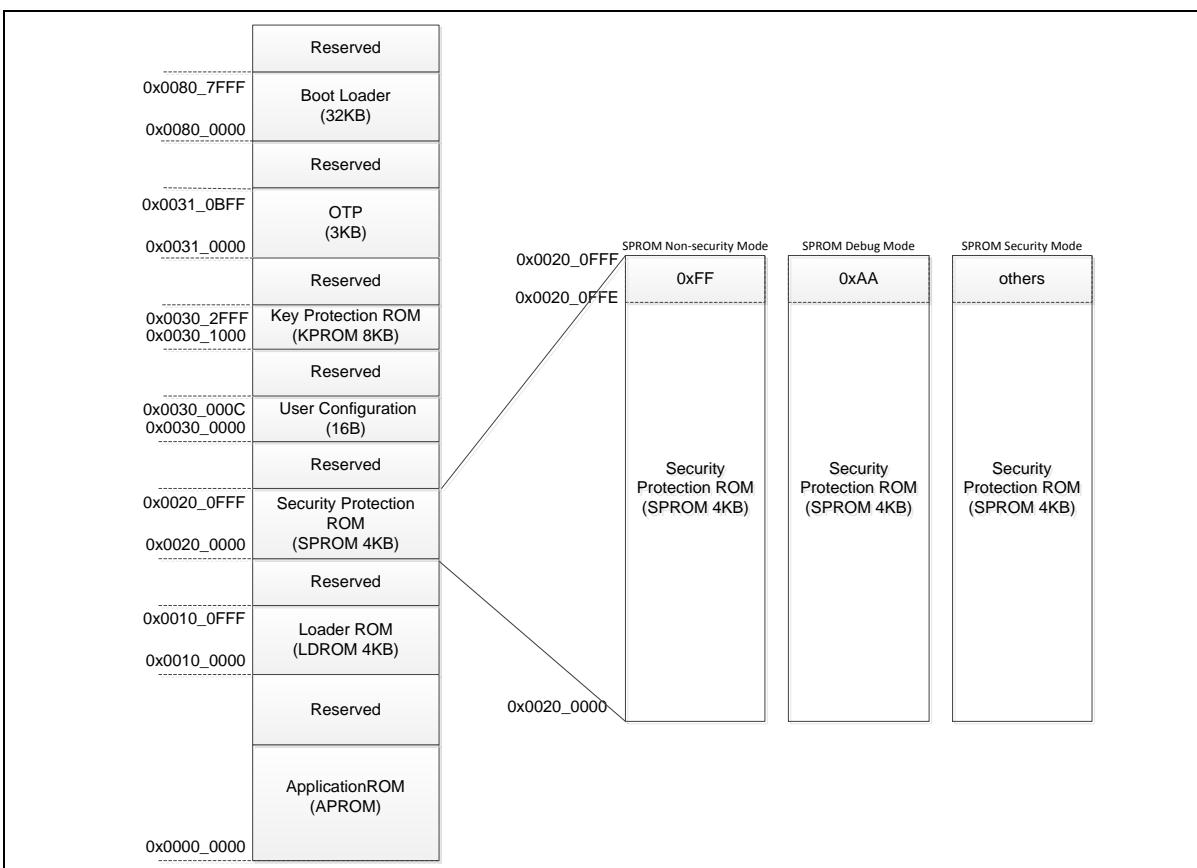

Figure 6.4-3 SPROM Security Mode
The security protection memory (SPROM) is used to store instructions for security application. The SPROM is 4 Kbytes with location address 0x20_0000 ~ 0x20_0FFF. SPROM is only erased by “page erase command”. The last byte of SPROM (address: 0x0020_0FFF) is used to identify the SPROM code is secured or non-secured as show in Figure 6.4-3. SPROM has three modes, (1) SPROM non-secured mode (the last byte is 0xFF), (2)SPROM debug mode (the last byte is 0xAA), (3) SPROM secured mode (the last byte is not 0xFF or 0xAA).